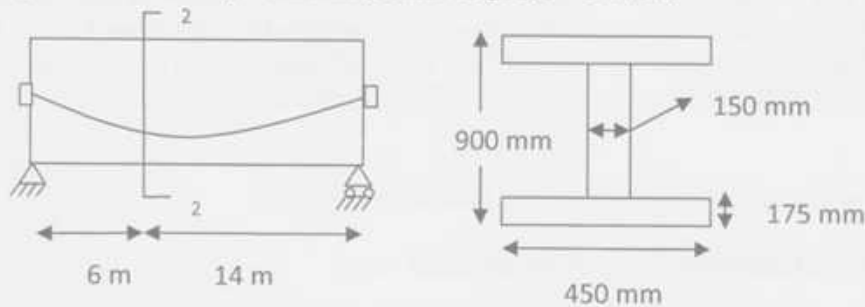

Figure: 2
4. (a) Check shear strength for station 2-2 for the beam in **Figure 2**. The symmetric I-shaped noncomposite section spans 20m and it is adequate for $w_u = 75$ kN/m. Given, $F = 1860$ kN, $f'_c = 50$ MPa and $w_d = 6$ kN/m (beam weight), $e = 340$ mm. (15)
- (b) Define length of transfer. Write down the most important factors which affect the length of transfer. (10)
- (b) Twelve steel wires of 9 mm diameter with anchorages are used for prestressing of a 15m pretensioned beam. The beam has symmetrical I-section shown in **Figure 2**. [Given, $f_c = 860$ MPa, $f_{se} = 750$ MPa, $f'_c = 40$ MPa, $M_G = 75$ kN-m, $M_T = 270$ kN-m at midspan]. Determine the position for the c.g.s. line. (15)